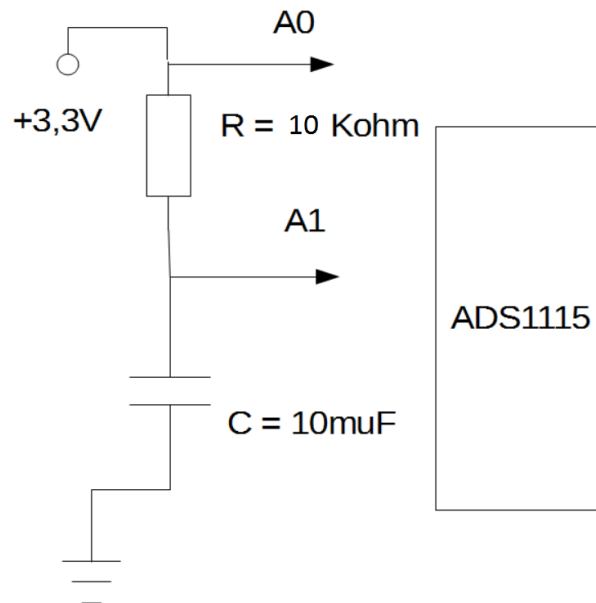

Figure 1. Charging and discharging process of an electrolytic capacitor over a resistor.
- The first example of Raspberry Pi-based investigation with the PhyPIDAQ Software package is the charging and discharging of a  $10\mu\text{F}$  electrolytic capacitor over an Ohmic resistor connected in series to the +3,3V-pin of the Raspberry Pi. The simple schematic of this RC circuit is shown in the Figure 1.
- After constructing the circuit with the schematic in the Figure 1. the next step is to configure the experiment and the analog-to-digital Converter ADS1115 with the PhyPiDAQ-Software.
- The electric circuit shown in the Figure 1. allows us to measure the electric charge on the capacitor as well as the current flowing into the RC circuit. The recorded charging/discharging current flowing through the resistor in the RC circuit as well as the electric charge in the capacitor over time are shown in the Figure 6. Analyse the `Kondensator_I_Q_2_en.daq` configuration of this experiment, and answer the following questions: How are the voltage across the capacitor, electric charge and electric current mathematically related? Does this relationship change when using different capacitors?